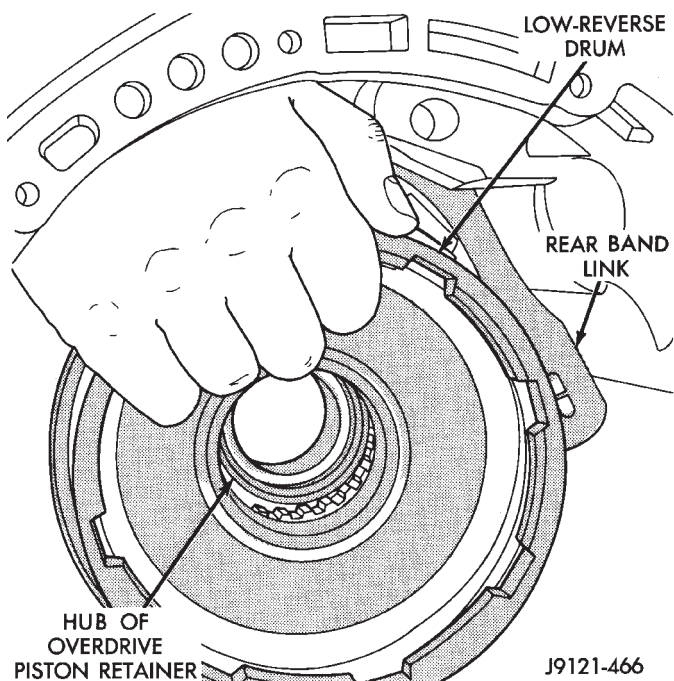

Fig. 127 Low-Reverse Drum
(3) Install low-reverse drum (Fig. 127). Slide drum through rear band, onto piston retainer hub and into engagement with overrunning clutch and race.